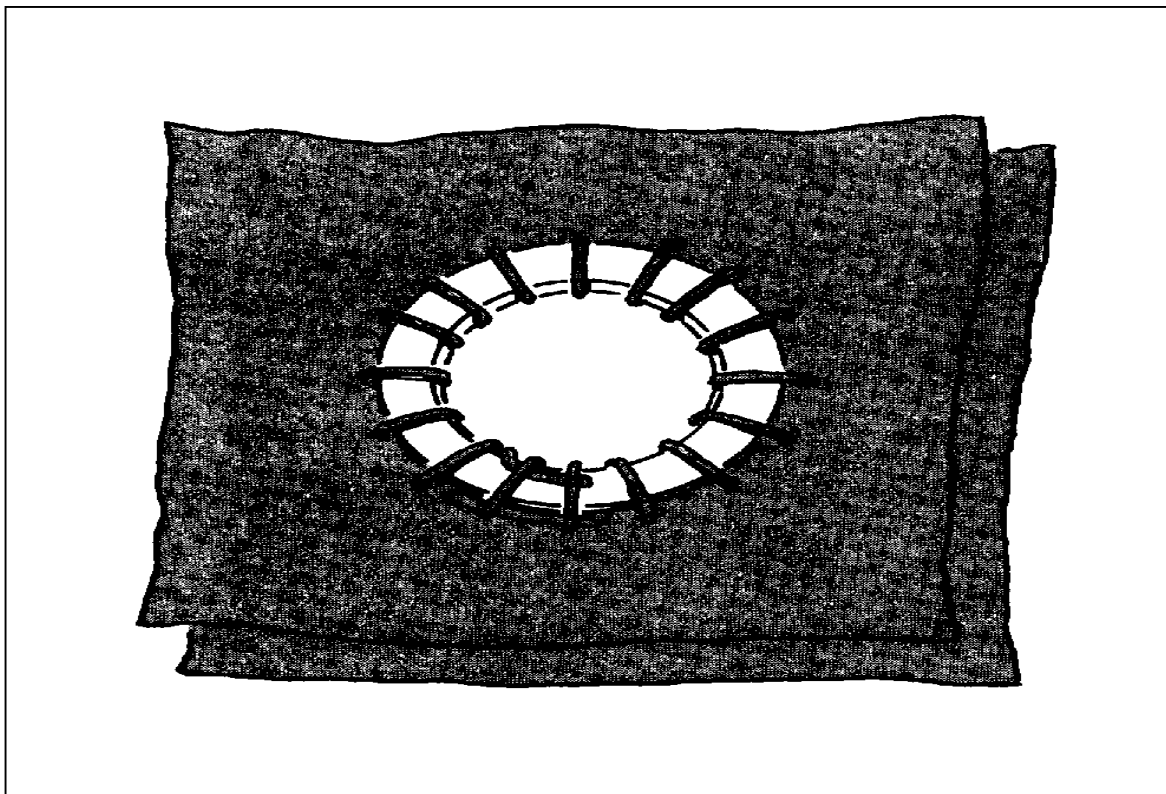

Figure 12-6. Series of round stitches around a grommet
(5) Thread the needle with four strands of waxed thread, and knot the ends. Twist the strands together, rewire the thread, and cut off the knot.
(6) Stick the needle into one of the needle holes, and draw the thread through the hole until a 1/2-inch end is left.
(7) Hold the 1/2-inch length of thread down against the canvas and the edge of the ring with the free end pointing clockwise.
(8) Bring the needle up through the grommet hole, over the ring and the 1/2-inch end, and stick it down into the next needle hole.
(9) Continue stitching clockwise, making a series of round stitches around the grommet hole (Figure 12-6).
(10) Finish the stitching by sticking the needle under the last two stitches and pulling the thread up tightly.
(11) Leave free a 1/2-inch length of thread, and cut the thread.
(12) Flatten the stitching by pushing the fid into the grommet hole, first from one side and then the other.